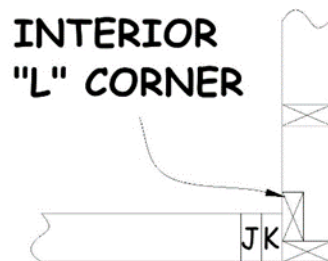

Figure 3-11. Interior L-Corner Configuration.
5. At corners and intersections, pay attention to whether a door will be built at that location. If so, make the room wall long and the door wall short, not the other way around. Include an “L-Corner” at the door end of the room wall and lay out the door plates so that the KJ pair abuts the L-Corner (see Figure 3-11). This allows for easy nailing through the “L” into the King stud. This configuration also provides a stronger corner that does not depend on nailing one stud into the edge of another stud. In addition, nailing the end of the long wall to the floor provides a stronger anchor than does toenailing the KJ pair to the floor.
2. Recheck wall intersections to determine which wall end should abut the side of the other wall (which wall will be the “long” wall and which will be the “short” wall). This may be dictated by an adjoining door. (See Section 3.6.5 and Figure 3-11 above.)
- c. Where a door will be attached at the end of a bathroom or bedroom wall, mark the end of the wall for a 2x4 L-corner oriented to allow nailing through the L-corner into the King stud of the door (see Figure 3-11). This is similar to the 2x6 L-corners used in the exterior walls.
- a. The short wall next to the tub/shower will typically be 36” long. As usual, layout studs on 24” centers starting at the intersecting wall. At the opposite end, layout a 2x4-2x6 L-corner similar to that shown in Figure 3-11, with the 2x6 base of the L on the surface facing the tub. This will provide vertical blocking to which the shower flange can be attached, 31½” from the wall.